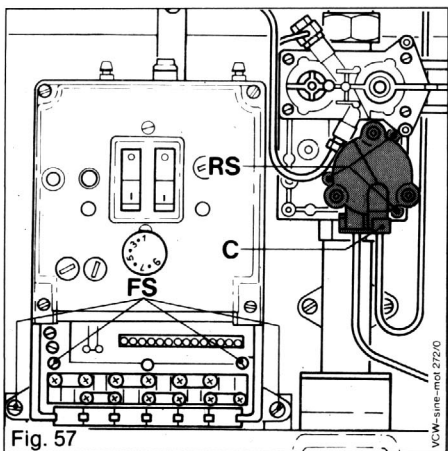

Fig. 57
14.5.3 Change of differential valve (Fig. 57)
Unscrew the four retaining screws (FS, Fig. 57). Pull out complete control box to the front.